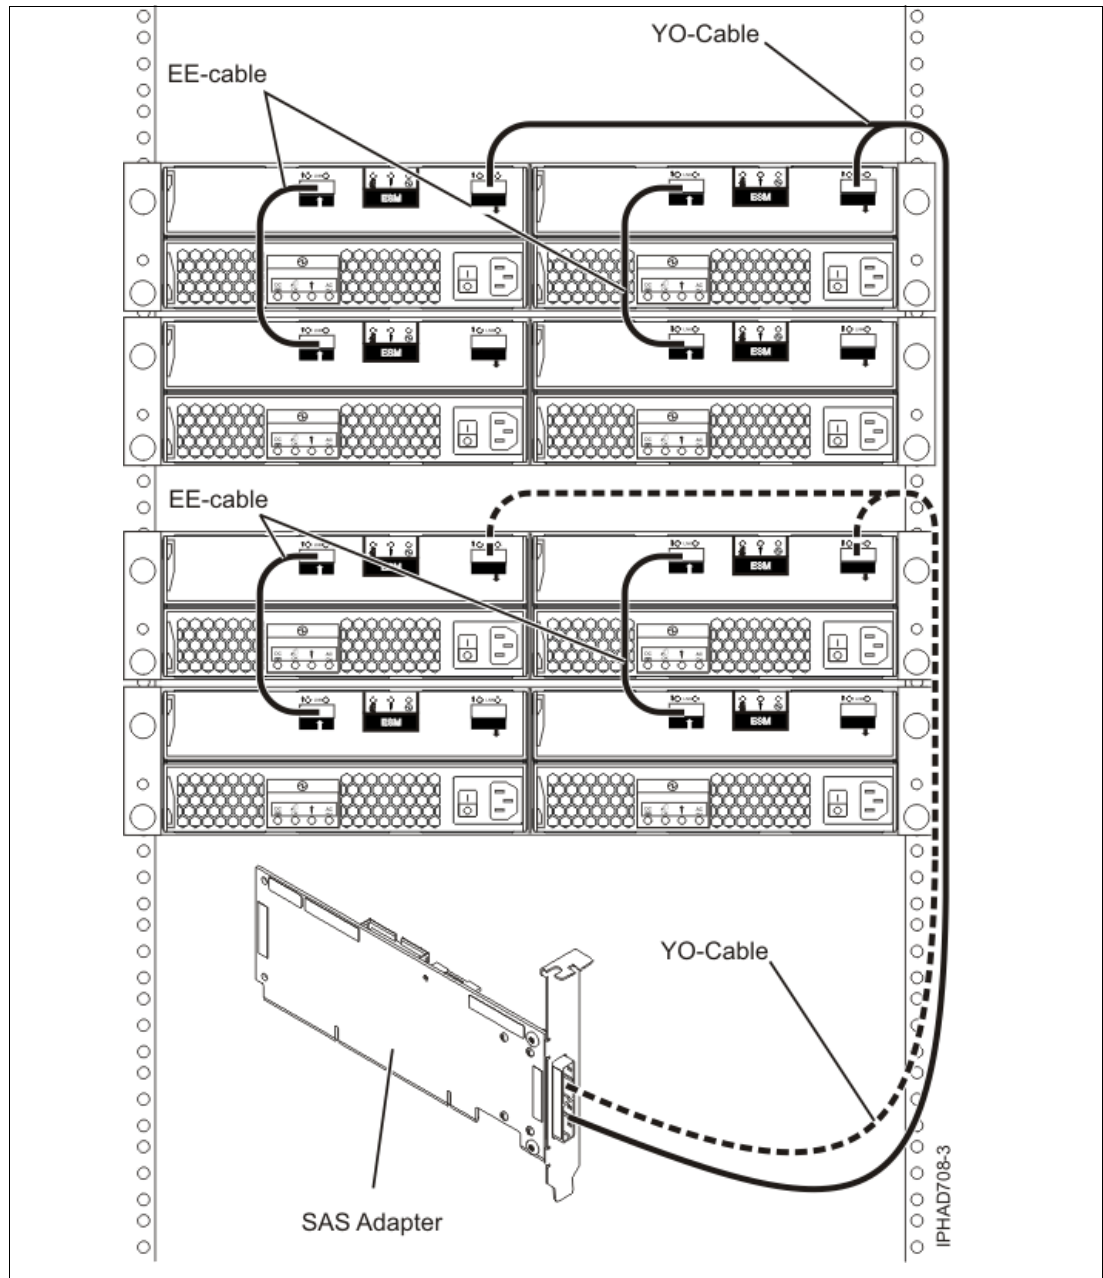

Figure 6-5 Maximum attachment of EXP 12S on one adapter
A maximum configuration using four EXP 12S drawers on one adapter feature is shown in Figure 6-5.
- ▶ You must understand the expected number of disk I/O operations per second in your working environment before considering the configuration shown in Figure 6-5. Spreading disk drives across multiple adapters and using other higher capacity (such as with large write caches) adapters may be required.